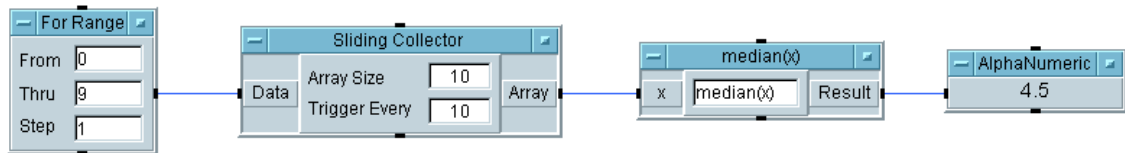

Figure 55 Connecting Data Objects
- 5 Add an AlphaNumeric object, by selecting **Display** $\Rightarrow$ **AlphaNumeric**. Connect the objects as shown in Figure 55. Run the program. If you have not changed any of the inputs on the objects, you should see the result displayed in Figure 55.